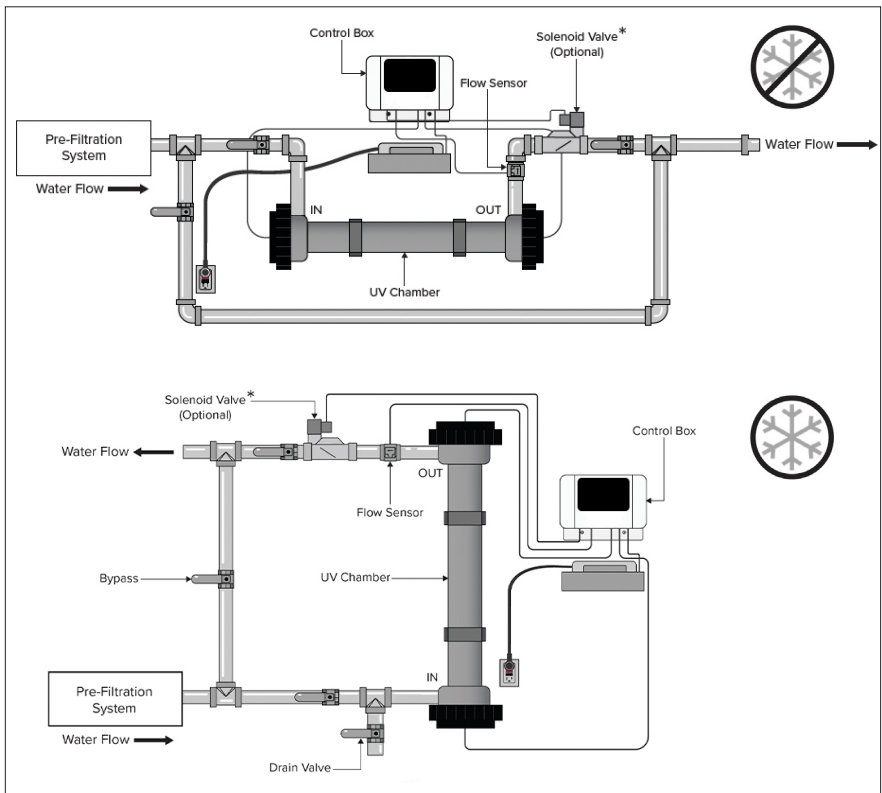

Figure 2: ArrowMAX™ HOME 10K Water Treatment System
**FIGURE 2** shows the installation of a typical ArrowMAX™ HOME 10K and the related components that may be used for the installation. The use of a bypass assembly is recommended in case the system requires “off-line” maintenance. In this case, it requires a supplementary disinfectant for the distribution system if any water is used during the by-pass condition. For details, please refer to **SECTION 10.1** water treatment system. (SEE PAGE 22.)
Ensure all parts are located in the right position, and water is flowing through in the correct direction. (**REFER TO FIGURE 2 FOR OVERALL CONFIGURATION.**) Once installation is complete, allow proper time for the glue to dry according to manufacturer instructions.